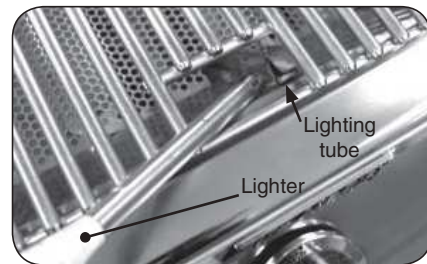

Fig. 17-2 - Manual lighting
2. Insert either a burning long-barrel butane lighter or a burning long-stem match through the cooking grid opening to the top of the lighting tube. (Fig. 17-2). For backburners, hold the flame against the surface of the backburner. For sideburners, hold the flame against the burner.
4. If the burner does not light, **immediately depress the knob and turn the valve to OFF**. **WAIT FIVE (5) MINUTES** before repeating steps 2 through 4 of the **MANUAL LIGHTING** instructions.